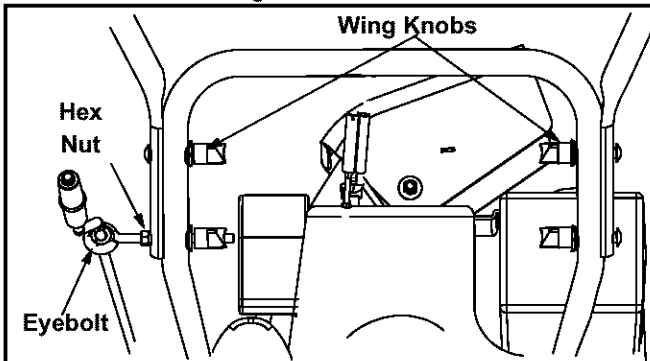

Figure 4
- Raise the upper handle assembly until it locks over the lower handle. See Figure 4.
- Secure the upper handle and lower handle with the two plastic wing knobs, cupped washers and carriage bolt (eyebolt on the left side) previously removed. See Figure 4.
- Adjust the eyebolt on the chute directional control so the rod does not come into contact with the engine by moving the hex nut against the handle (if necessary). Retighten the wing nut to secure the directional control in this position. See Figure 4.